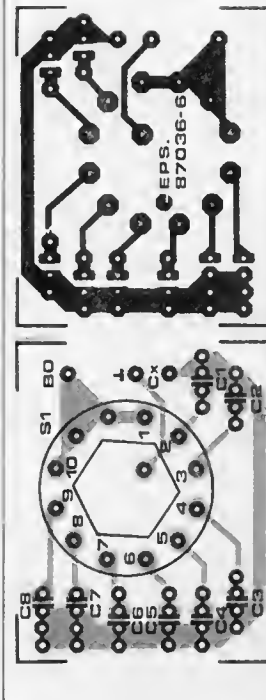

Fig. 12. Rotary switch S_1 for the phase angle setting can be fitted separately onto this board, along with 8 capacitors.
Switch S_1 and associated timing capacitors and preferably fitted onto a separate PCB shown in Fig. 12. When this is not possible, each capacitor can be connected direct to the relevant switch contact, and each free capacitor terminal is then joined with the others to enable making a two-wire connection to the relevant points on the PCB.
- ($C_1 \dots C_8$ incl.: see Fig. 12)
- $S_1 =$ single pole 10-way rotary switch (see Fig. 12; use a 12-way type with adjustable stop).